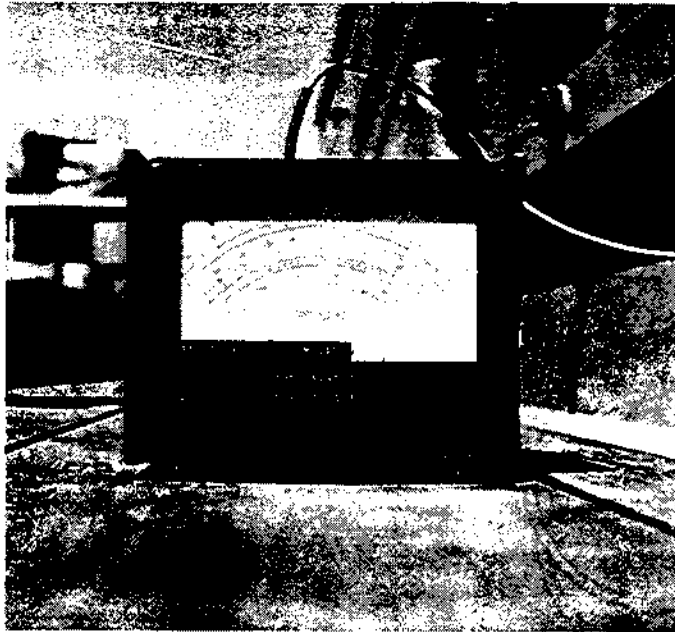

FIGURE 3 - Simpson Surface Pyrometer
2. An inexpensive pyrometer is well suited to measure the suction line temperature (Figure 3). There are several manufacturers of these instruments. They are battery powered and usually have two or more inputs with the necessary switches to take input signals from multiple sources.